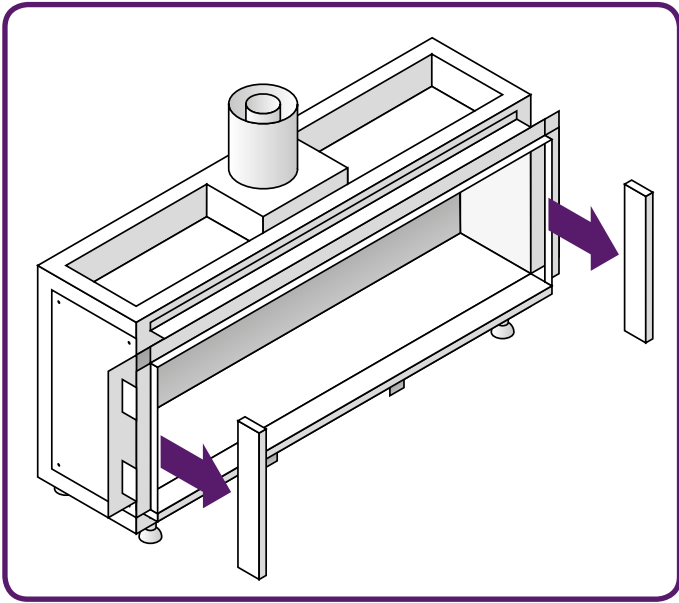

Figure 10.2 - Remove side trims
- Remove both the side trims and bottom trim. They are held by magnet snappers, *Figure 10.2 & 10.3*.